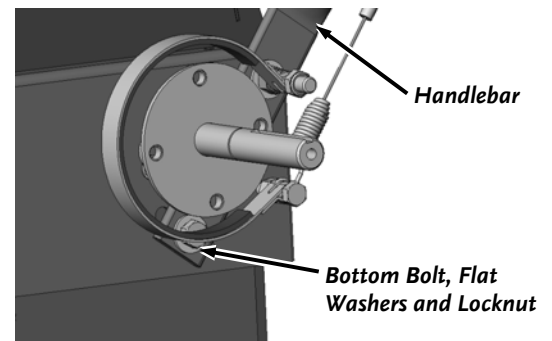

Figure 45
3. Remove the bottom Bolt, Flat Washers and Locknuts from both Handlebars with two 9/16" Wrenches and just loosen the upper Hardware (**Figure 45**).